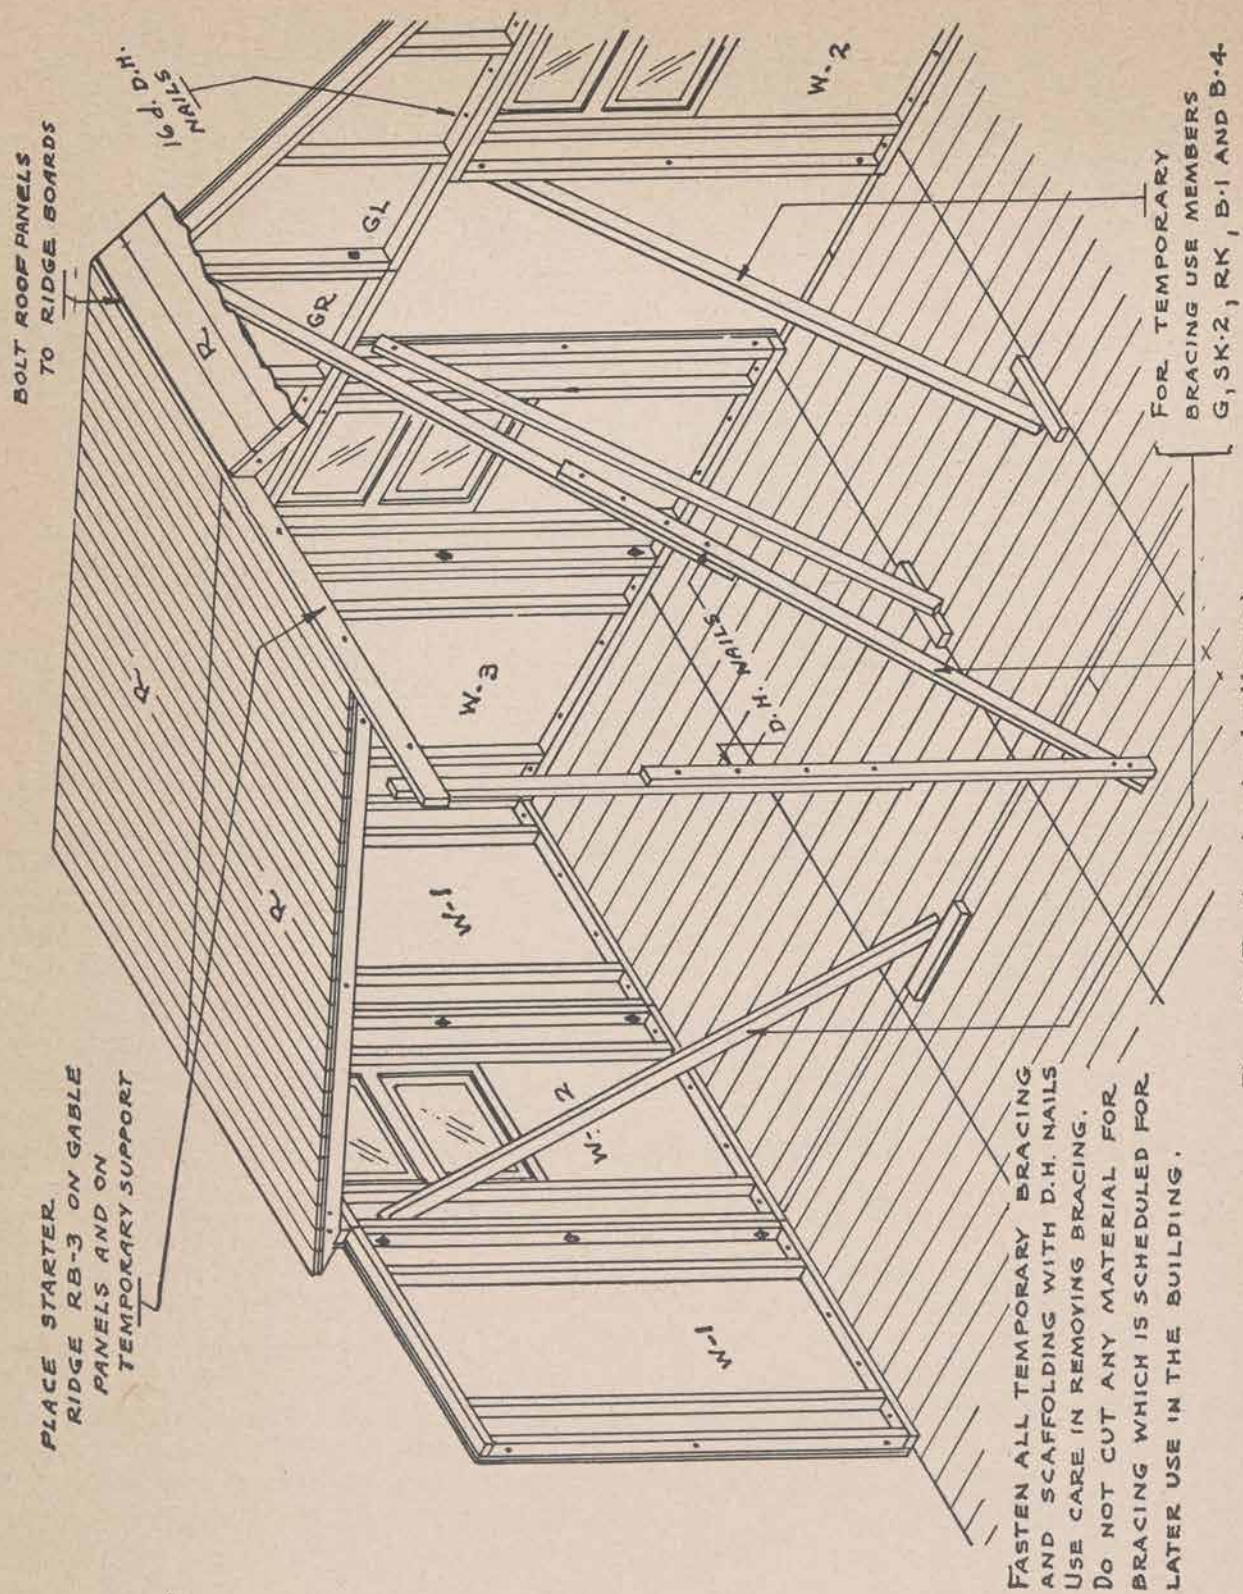

Figure 26. Erection of roof and gable panels.
7. Roof (refer to figs. 26 and 34)
"RB-3." Insert bolts with washers for holding opposite roof panels and ridge board in place (see fig. 26).